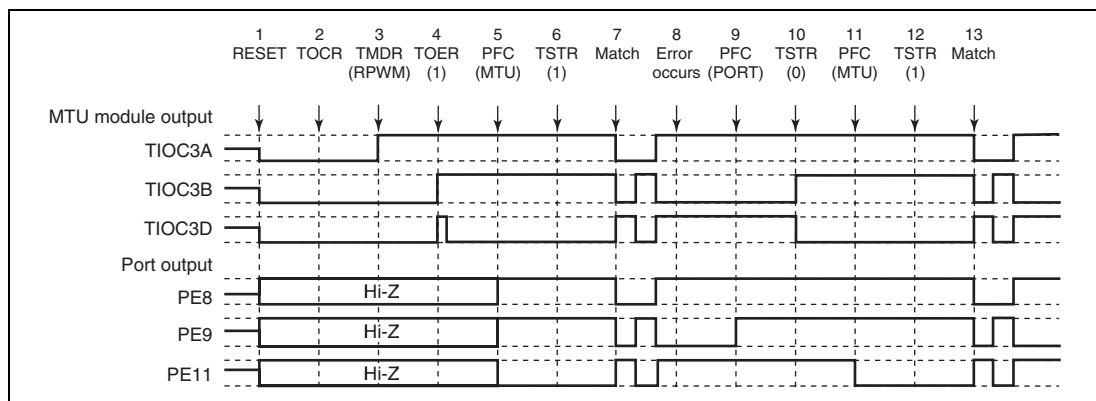

**Figure 11.113 Error Occurrence in Reset-Synchronous PWM Mode, Recovery in Reset-Synchronous PWM Mode**
**Operation when Error Occurs during Reset-Synchronous PWM Mode Operation, and Operation is Restarted in Reset-Synchronous PWM Mode:** Figure 11.113 shows an explanatory diagram of the case where an error occurs in reset-synchronous PWM mode and operation is restarted in reset-synchronous PWM mode after re-setting.